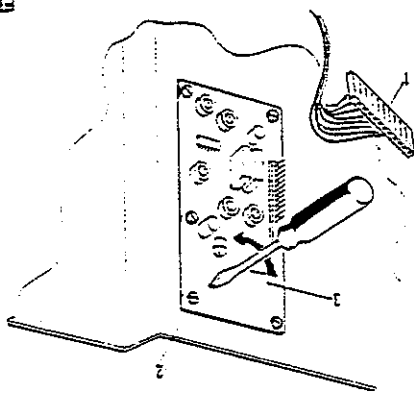

Fig. 10
1. Remove the electronic card protection cover by pulling with only one hand without the help of any specific tool, the fixing push-buttons (see fig. 10).
3. Release the brake of the electronic card rotating and-clock wise the elastic brackets of a quarter of turn (see fig. 10).